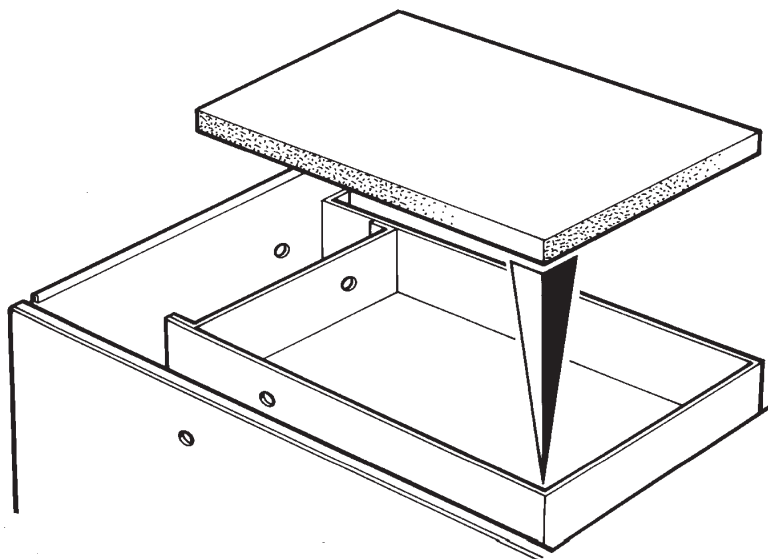

Fig. 7
7. Electric Aga - Fit one-off insulation blanket JPAD210722 (supplied with hob) on top of oven roof. (See Fig. 7).